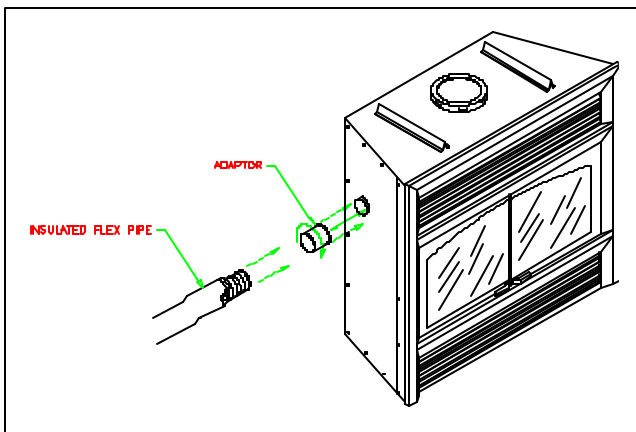

Figure 9
1. Fix the adaptor at the side of the fireplace by twist-locking the adaptor to the fireplace. You can use more than one outlet on the fireplace (figure 9).